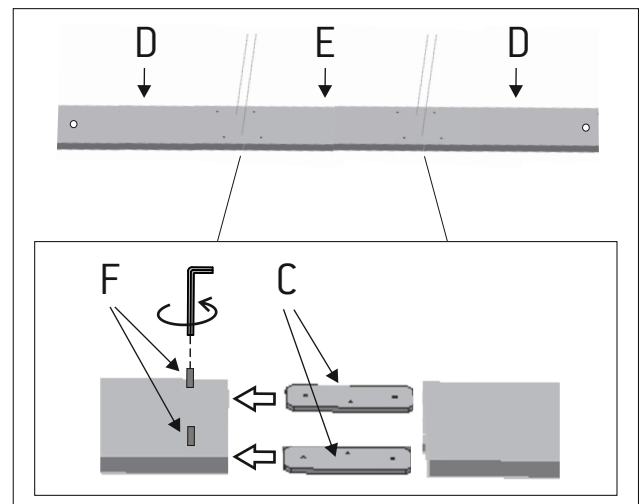

Figure 4
- 4 - Insert 2 of the metal pieces (C) into the tracks on the sides of the unit (D). The central holes have to go all the way inside. Keep in mind that the central track has no holes (E). First insert both pieces in one of the supports, aligning the holes and screwing the supplied studs (F) until they stop. Be gentle with the pressure. Do not overtight. Figure 4.